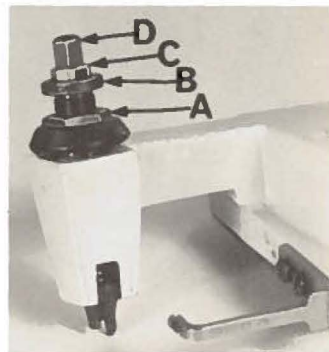

Fig. 2
Sufficient presser foot pressure to feed work uniformly should be maintained. Should it be necessary to increase or decrease amount of pressure on presser foot, loosen lock nut (A, Fig. 2) and turn adjusting screw (B). Adjusting screw has a right hand thread so tightening increases pressure, loosening decreases pressure. When pressure adjusting screw (B) has been properly set, tighten lock nut (A). With presser foot resting on throat plate, position locking nut (C) so that its under surface is approximately  $\frac{1}{32}$  inch to  $\frac{1}{16}$  inch from the top surface of adjusting screw (B). Set cap (D) against locking nut (C).